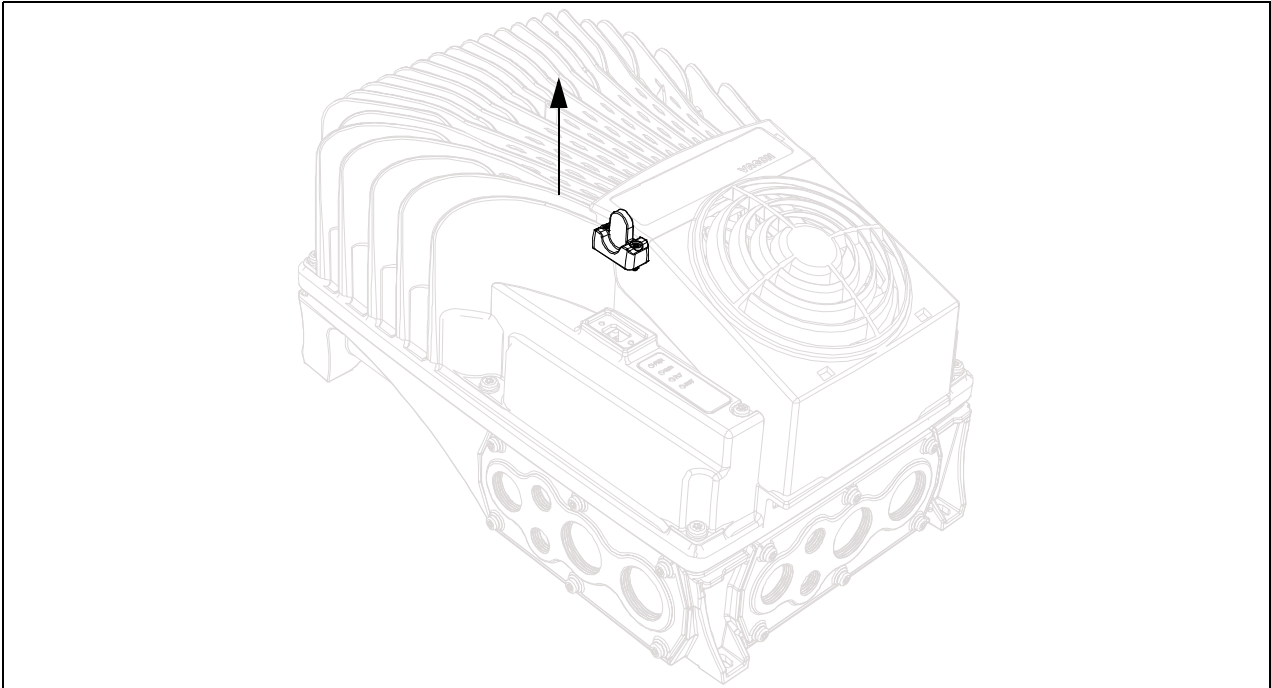

Figure 51. Disconnection of the HMI cap from the drive.
- Remove the HMI cap from the drive as shown in the Figure 51.